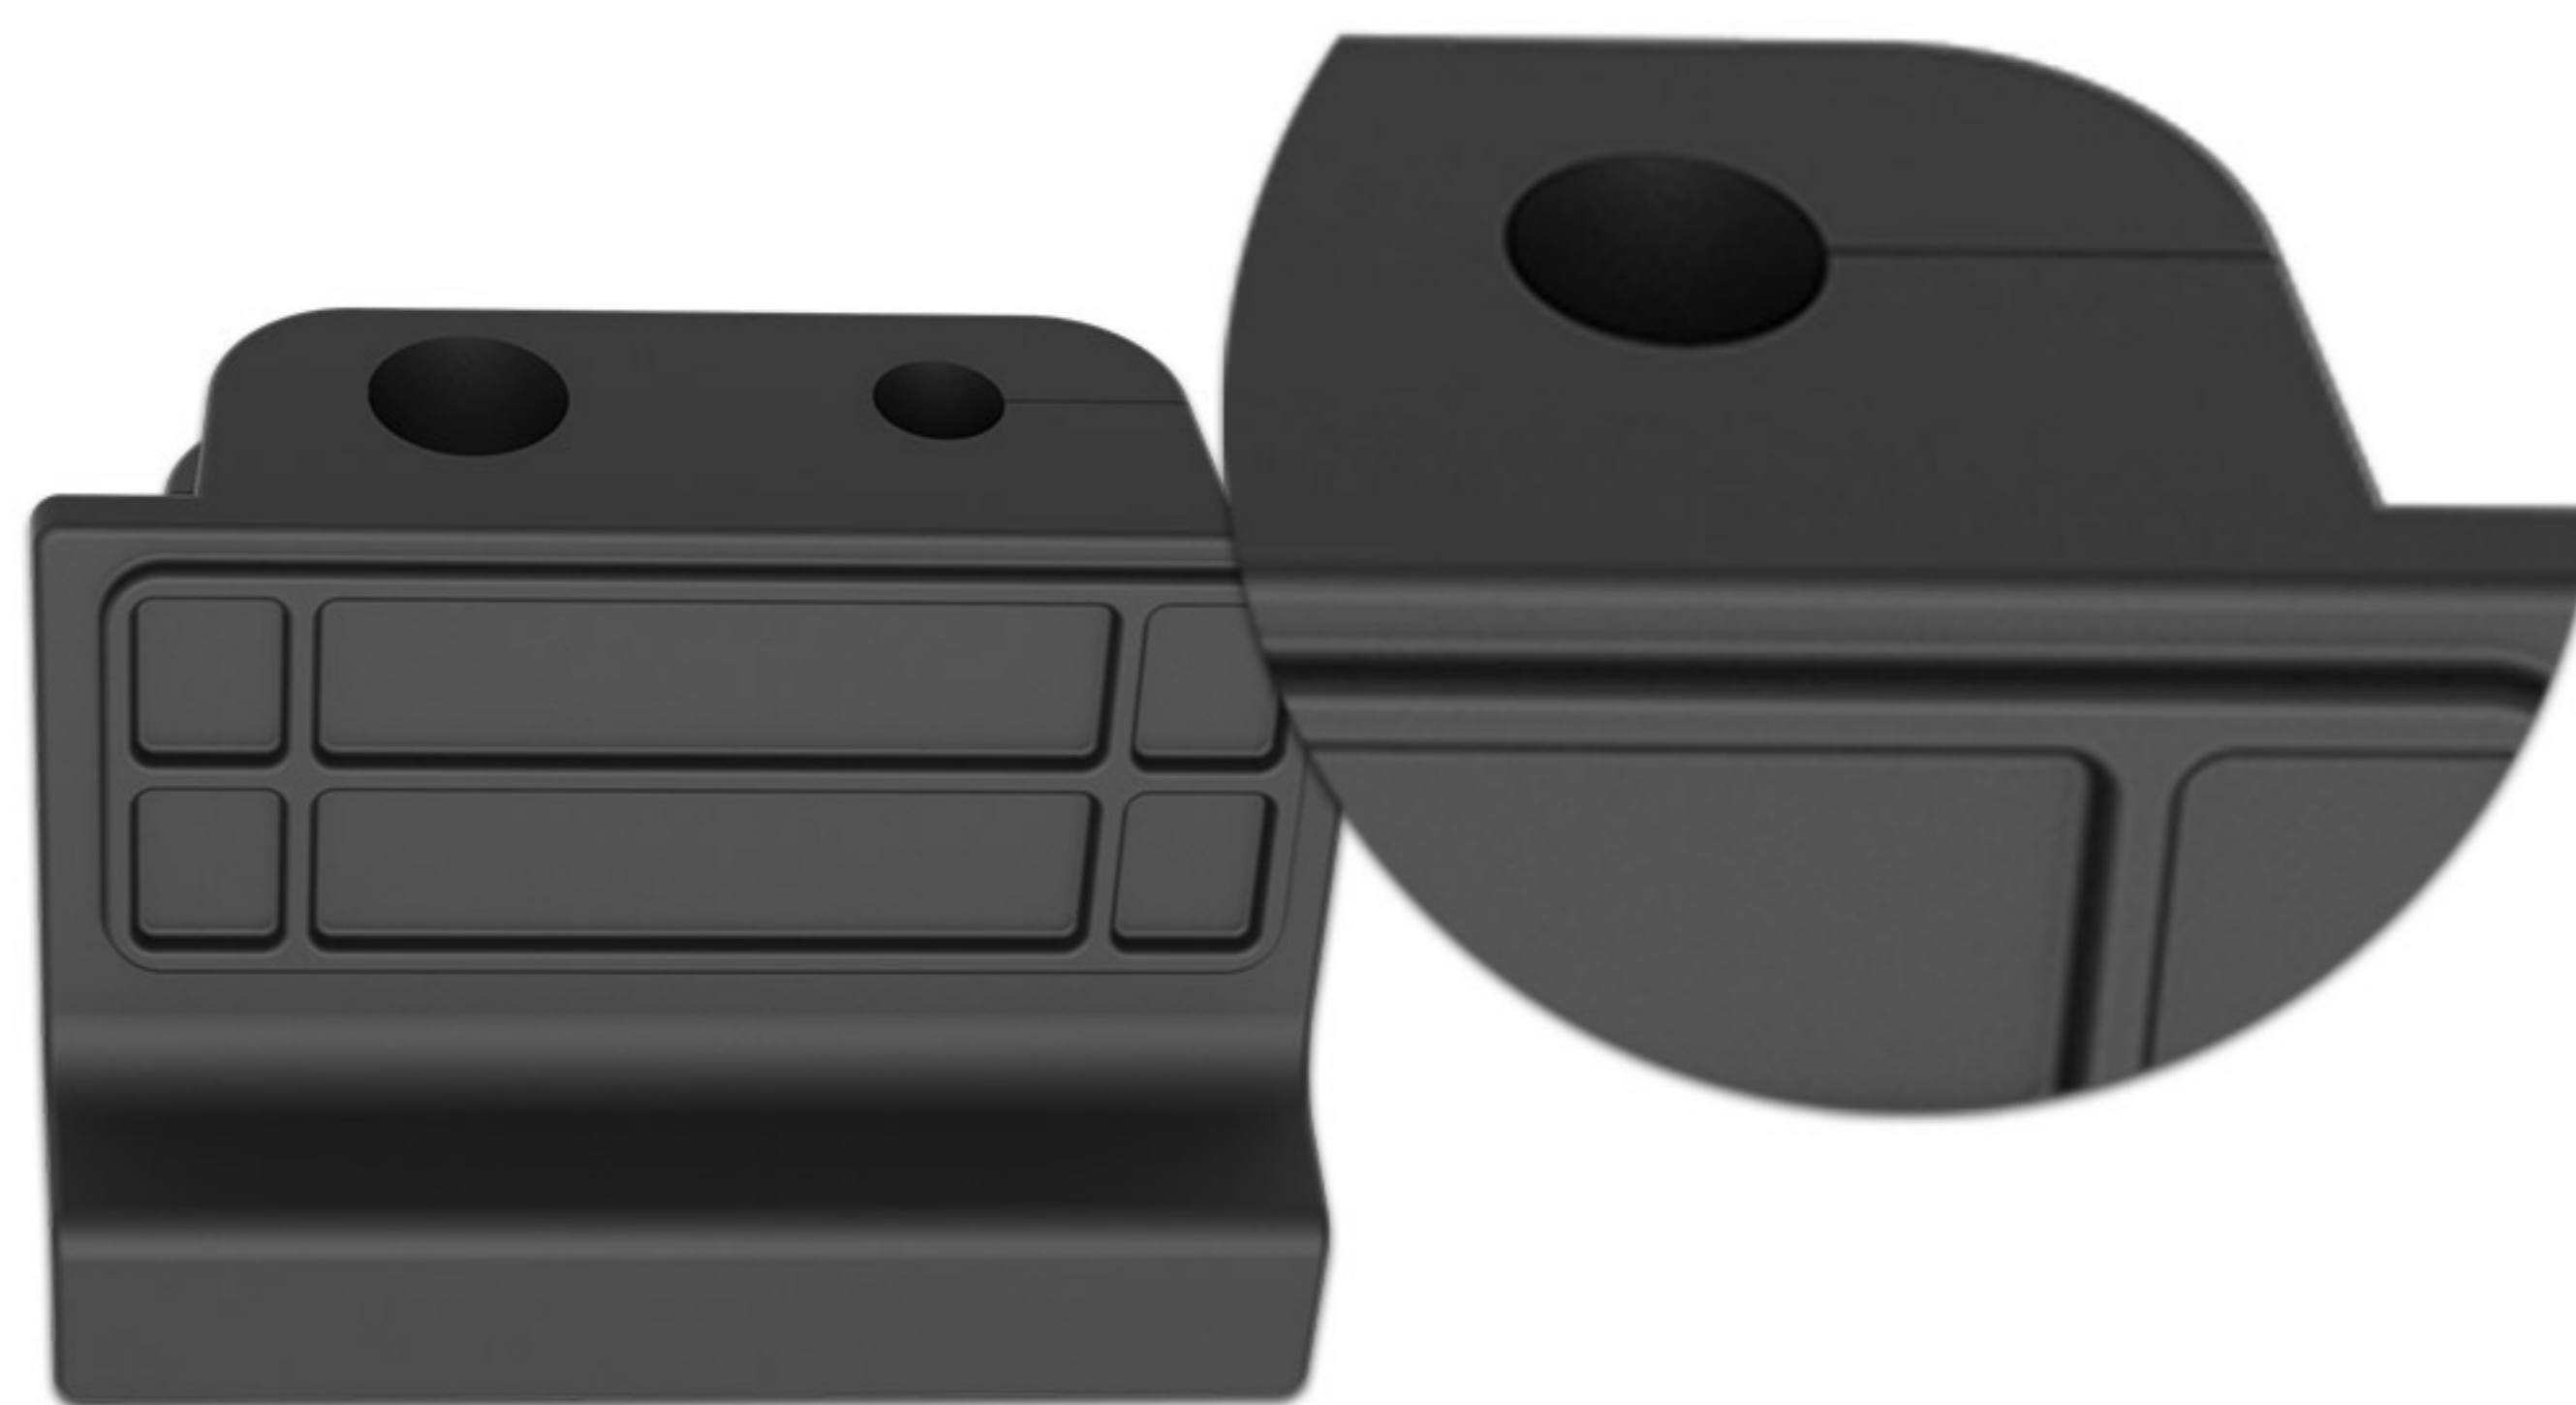
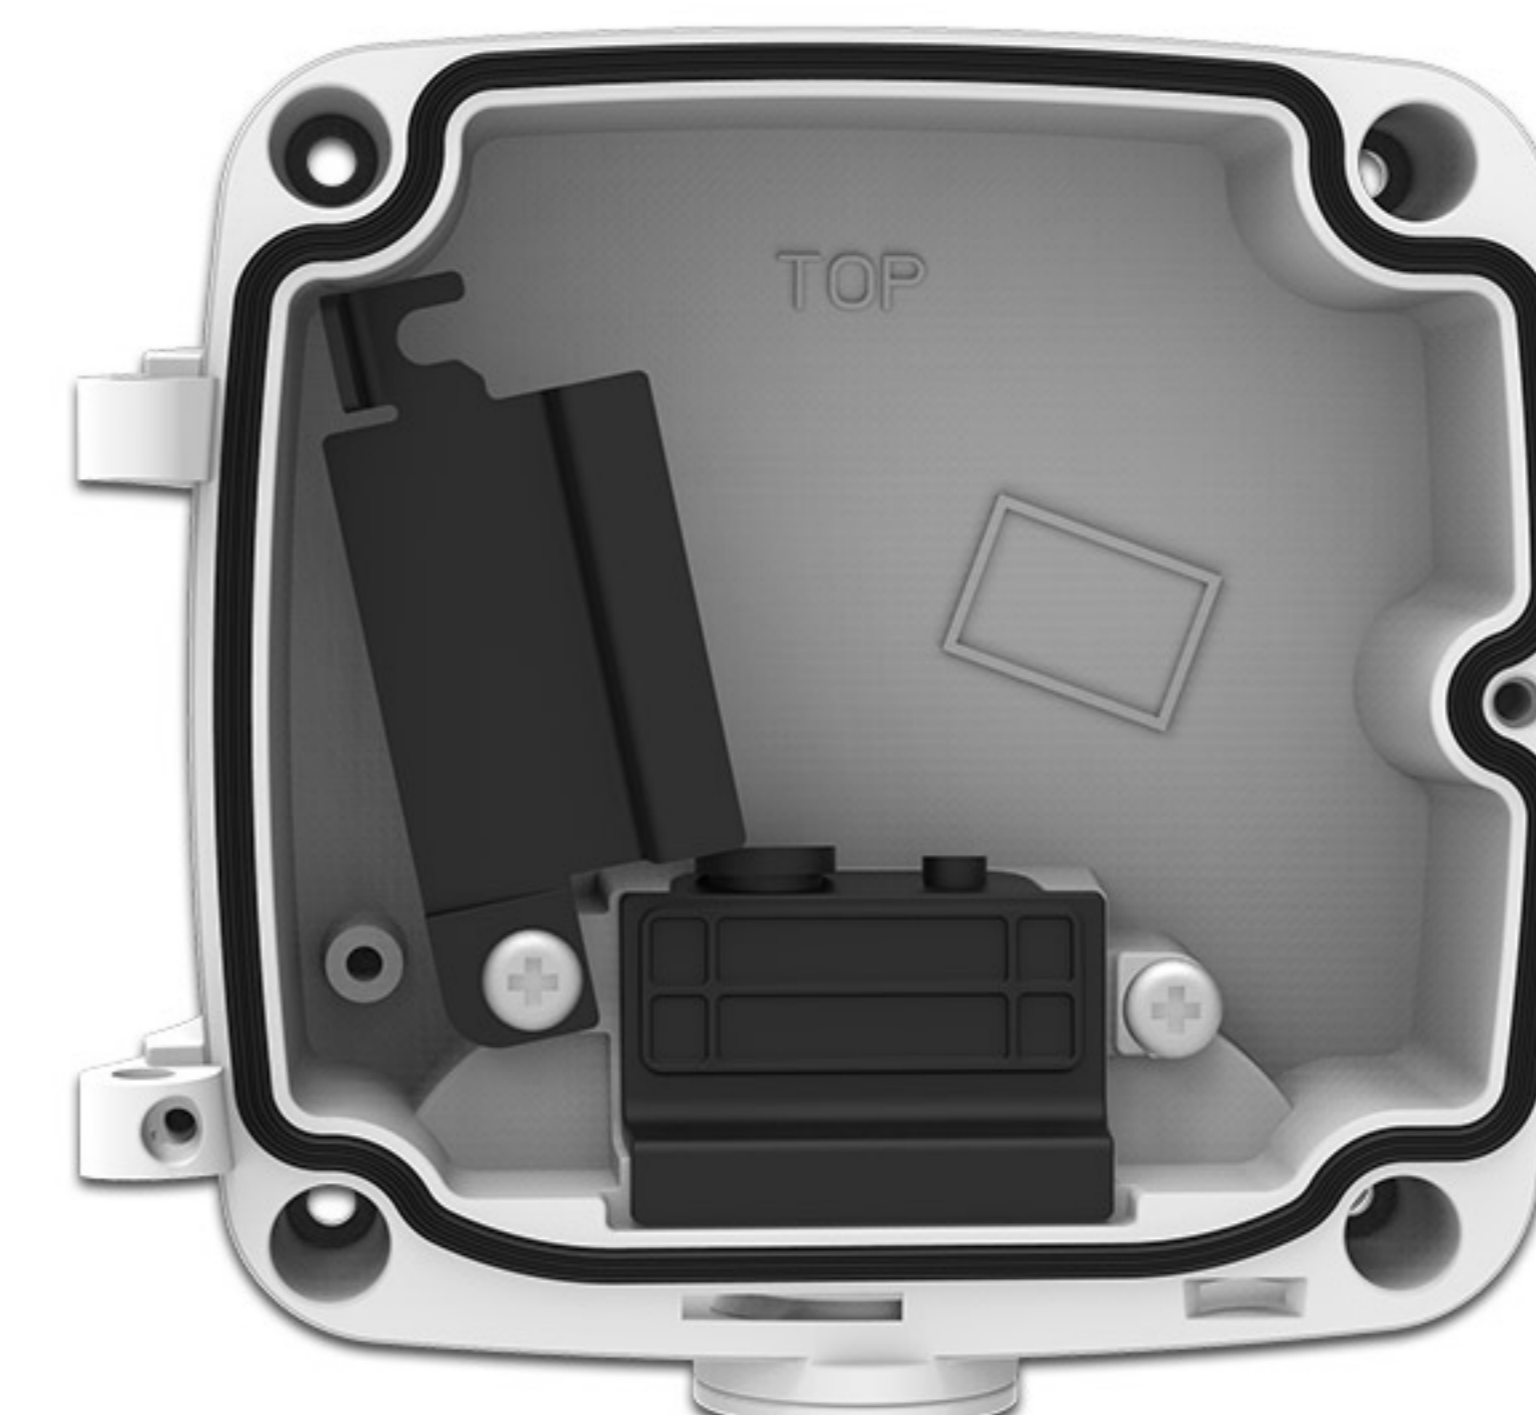

Figure 27
Figure 28
Step 3: Put the cables through the side opening of Black Rubber Plug (Figure 27. The side opening of the smaller hole has been cut, you can cut a side opening for the larger hole and choose one hole to put the cables through according to your need). Whenever you don't need to use the holes on the Rubber Plug, please note that the small Black Plug shall be tightly stuffed up (Figure 28);